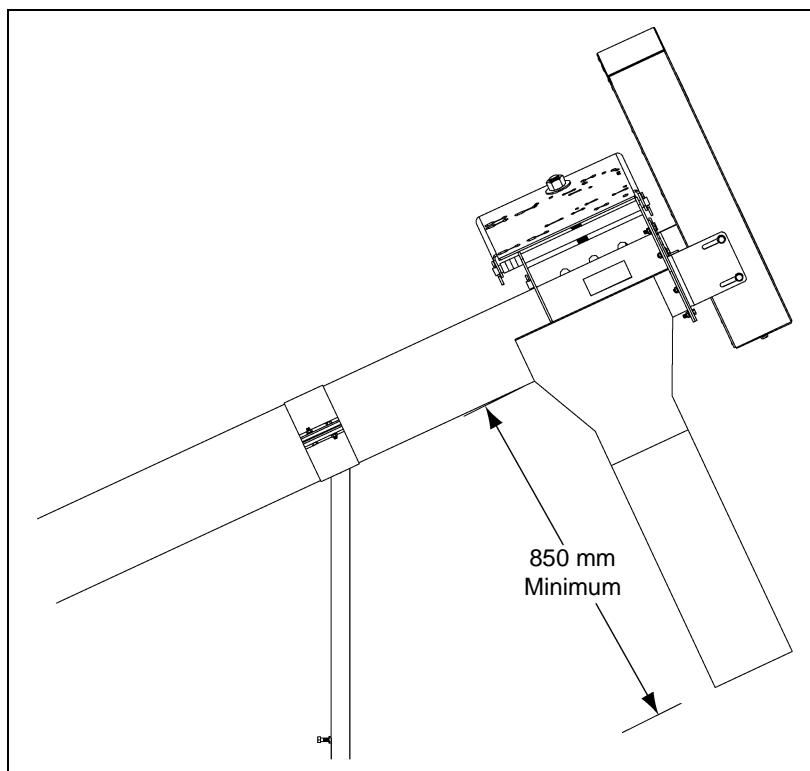

Figure 4K
4. EITHER fit the length of steel grain tube supplied with the outlet spout and attach with nuts and bolts or weld to the discharge spout. (See Figure 4K.)